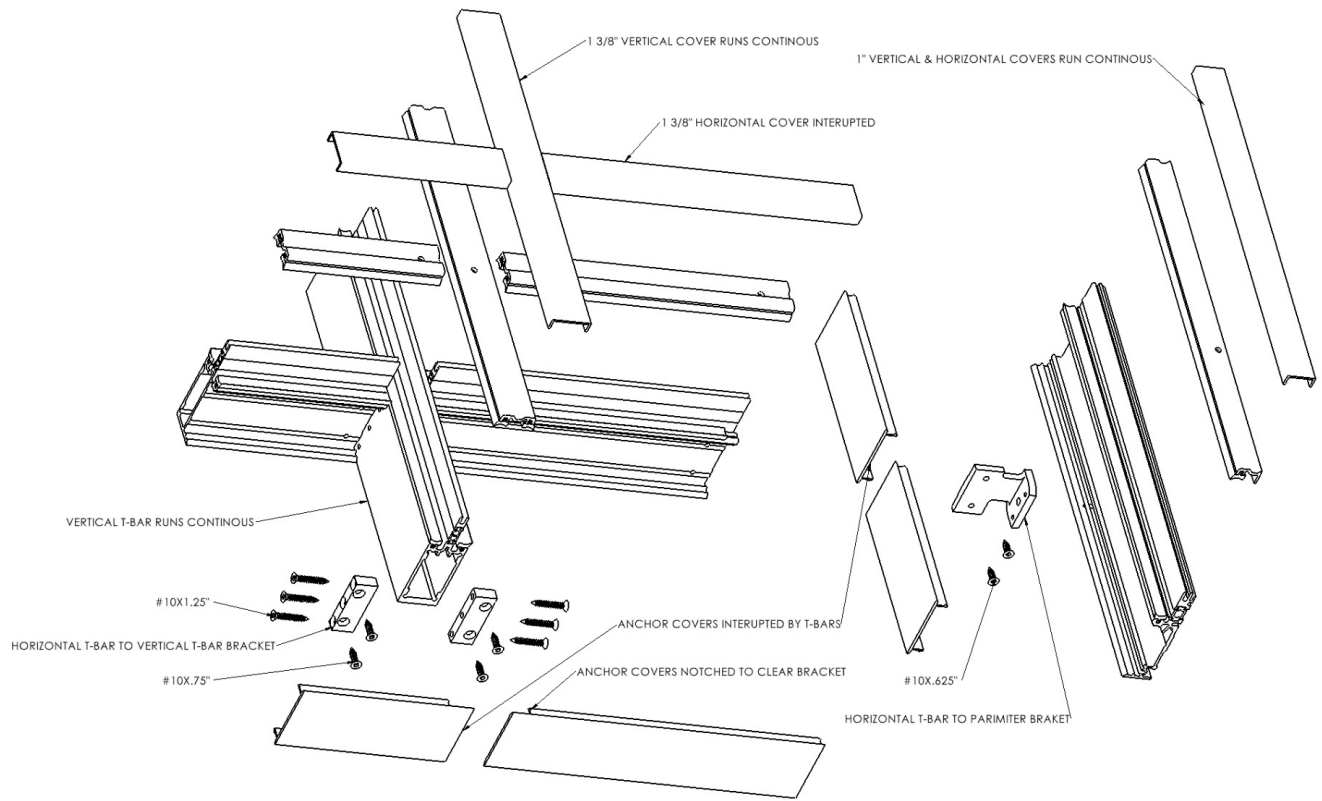

Figure 24
***See Figure 24 for a magnified view of a horizontal T-bar, vertical T-bar, and perimeter frame intersections.*